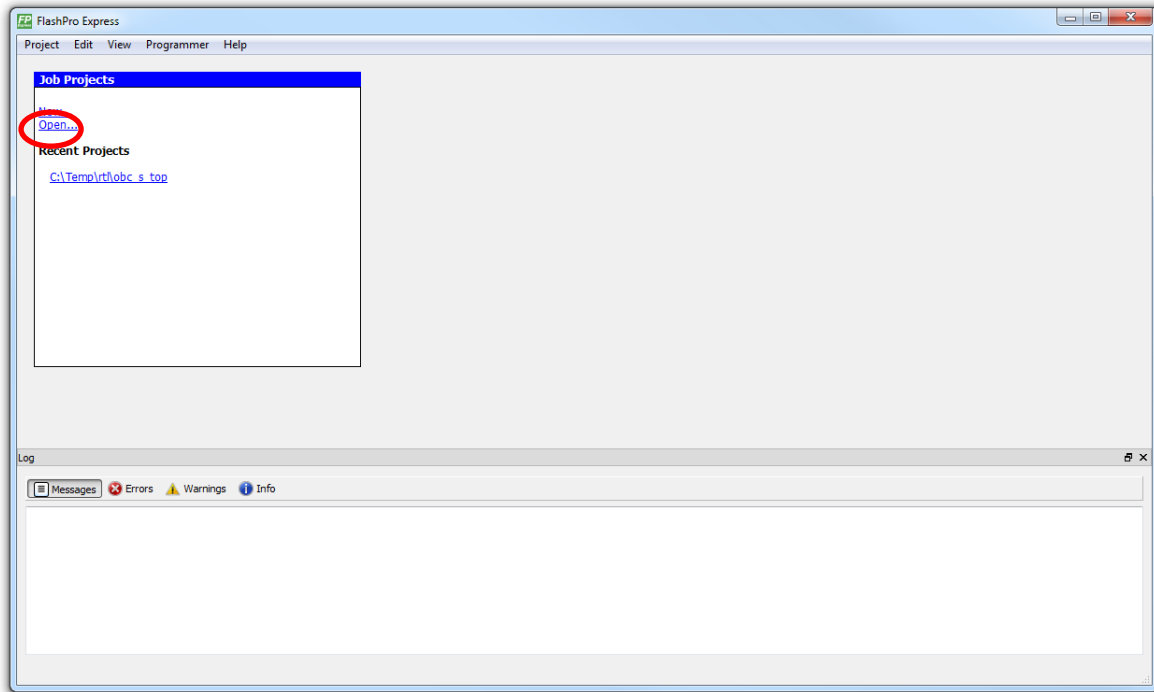

Figure 13-1 - Startup view of FlashPro Express
4. Start the FlashPro Express application, click “Open...” in the “Job Projects” box (see Figure 13-1) and select the supplied .pro file.